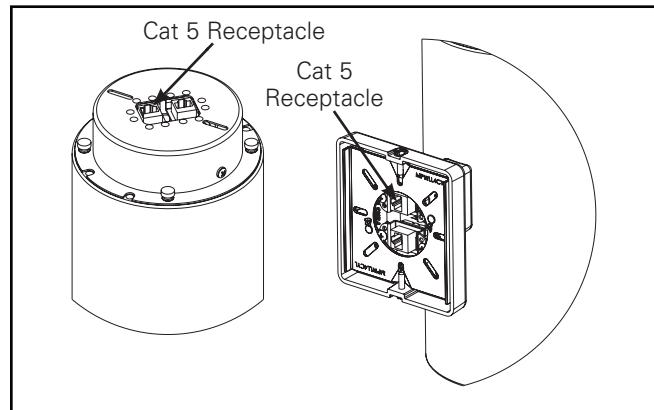

Figure 8.
1. Locate Cat 5 receptacles. For ceiling mounted cylinders receptacles will be in the cylinder top, and wallmounted cylinders will have the receptacles will be inthe wall mount arm. (Figure 8.)